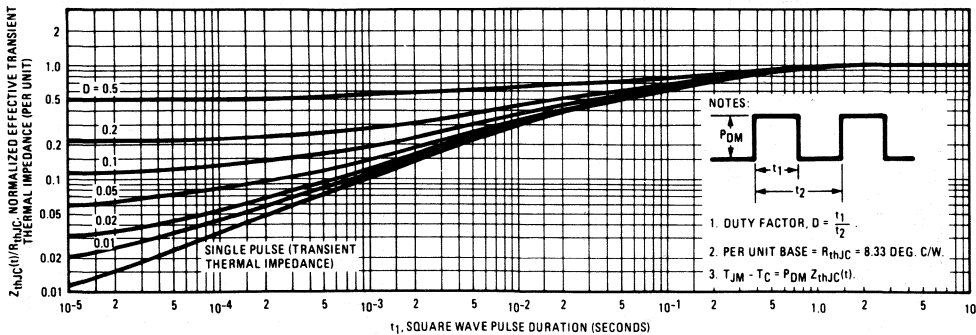

Fig. 5 - Maximum effective transient thermal impedance, junction-to-case vs. pulse duration.
3. Repetitive Rating: Pulse width limited by max. junction temperature. See Transient Thermal Impedance Curve (Figure 5).